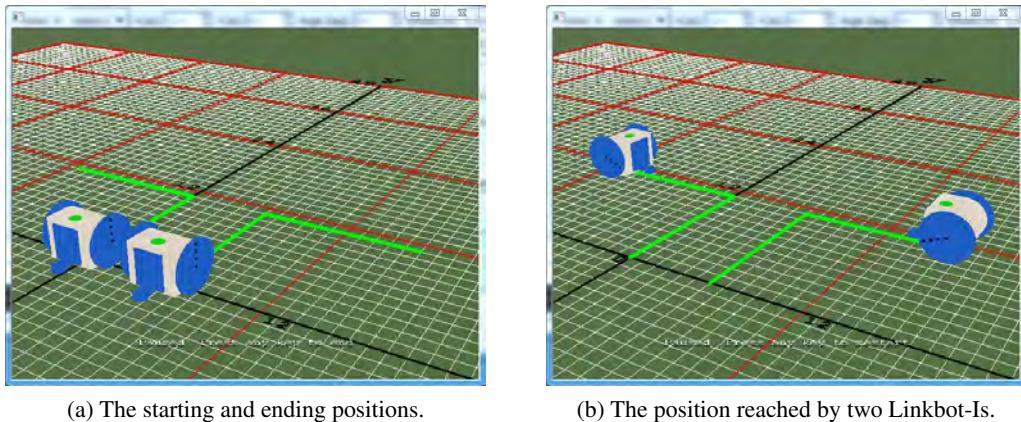

Figure 12.3: The trajectories for two Linkbot-Is.
- Two Linkbot-Is are configured as two-wheel robots. The radii of the wheels for both Linkbot-Is are 1.75 inches. The track width of the Linkbot-I is 3.69 inches. Write a program `turnleftnb2.ch` for two Linkbot-Is moving in the following manner simultaneously. The joint speeds for Linkbot-Is are set to 45 degrees per second. Two Linkbots will roll forward for 360 degrees from a starting line at the same time. Next, the first robot turns left 90 degrees and the second robot turns right 90 degrees. Then, both robots roll forward for 360 degrees. Finally, both robots drive back to the originally positions along the same paths as shown in Figure 12.3.